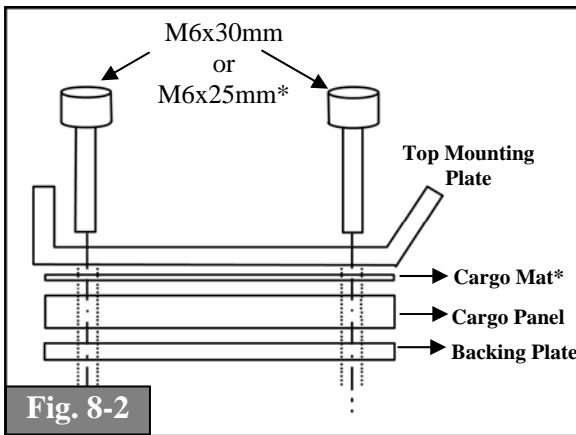
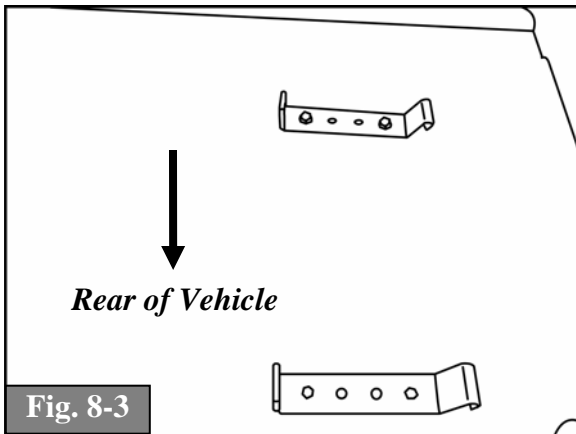

Fig. 8-2
Fig. 8-3
(f) Starting on the 2 forward holes, place two (2) M6 x 30mm bolts through the two outside holes of the top mounting plate, (through the pre-punched cargo mat, if equipped), through the cargo panel, & into the threaded backing plate, located underneath the panel. (Fig. 8-2)
(1) If the vehicle is NOT equipped with a rear cargo mat, use the (2) M6 x 25mm bolts on the 2 forward holes.
(2) Position the "curled" side of the top mounting plate as shown in Fig. 8-3.
(1) Position the “curled” side of the top mounting plate as shown in Fig. 8-3.